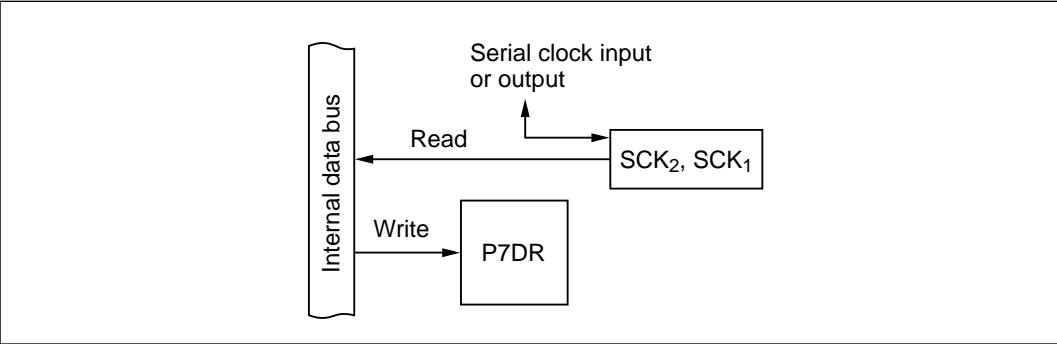

Figure 10-51 SCK₂ and SCK₁ Pins (Modes 1 to 7)
(7) SCK₂ and SCK₁ Pins (P7₇ and P7₆: Modes 1 to 7): Figure 10-51 shows a block diagram illustrating the SCK₂ and SCK₁ input/output function. Table 10-42 indicates register read/write data. When P7₇ and P7₆ are used for SCK₂ and SCK₁ input or output, the value written in P7DR is ignored, but P7DR can be read to monitor the levels at the SCK₂ and SCK₁ pins.